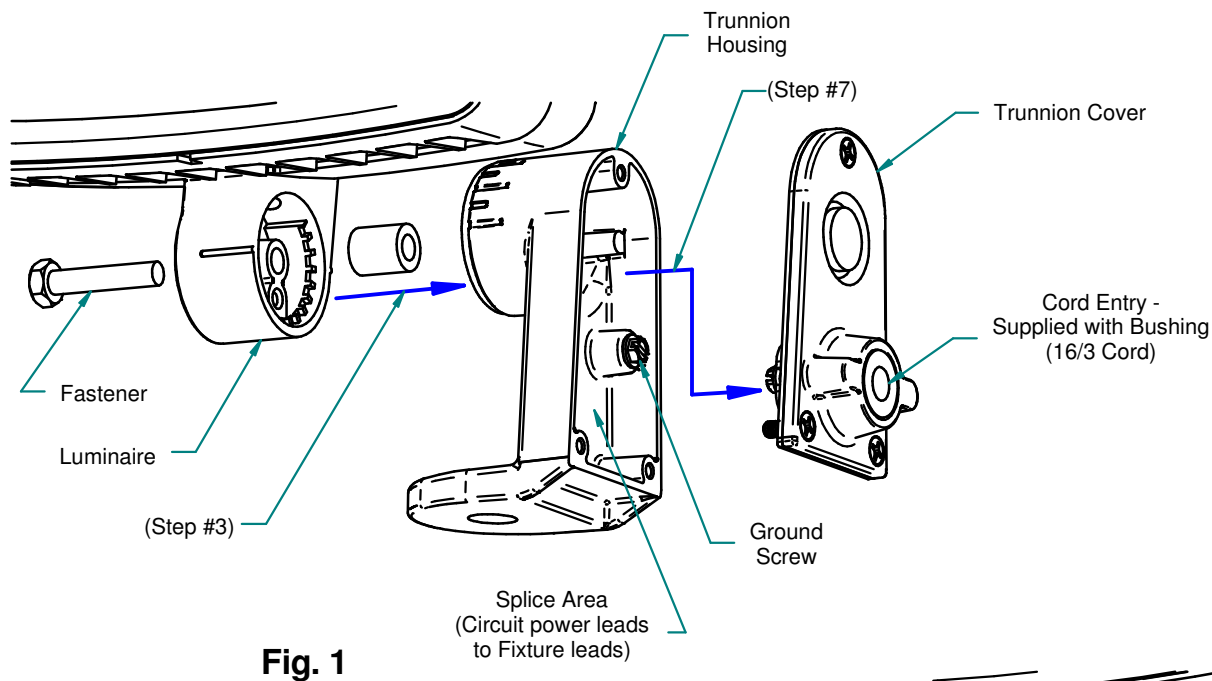

Fig. 1
3. Route black, white, and green wire leads from luminaire through the open trunnion housing. (See Fig. 1)
7. Splice the branch circuit power leads to the fixture power leads, black to black (hot), white to white (neutral), and green to green (ground). SO Cord size 16/3. (Fig. 1)